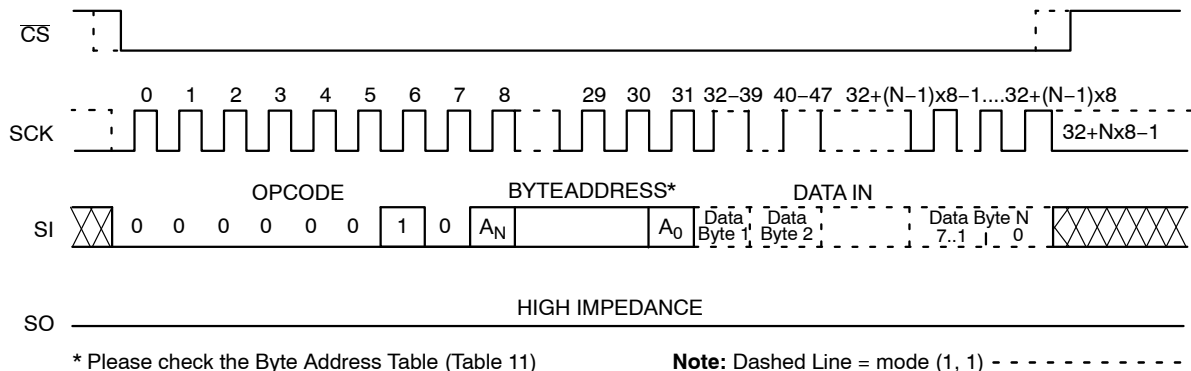

Figure 6. Page WRITE Timing
After sending the first data byte to the EA2M, the host may continue sending data, up to a total of 256 bytes, according to timing shown in Figure 6. After each data byte, the lower order address bits are automatically incremented, while the higher order address bits (page address) remain unchanged. If during this process the end of page is exceeded, then loading will "roll over" to the first byte in the page, thus possibly overwriting previously loaded data. Following
The additional 256-byte Identification Page (IP) can be written with user data using the same Write commands sequence as used for Page Write to the main memory array (Figure 6). **The IPL bit from the Status Register must be set (IPL = 1) using the WRSR instruction, before attempting to write to the IP. Prior to any write to the Identification Page, the Write Enable Latch must be set (WEL=1) by sending the WREN instruction.**